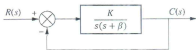

Figure 3: A unity second-order feedback control system
- Frequency of oscillation, ω_n (3)
- Damping ratio, ζ (2)
- Percentage overshoot, %OS (2)
- Settling time, T_s (2)
- Peak time, T_p (2)
- Sketch the step response of this transfer function. (4)
- b) Figure 3 shows a unity second-order feedback control system with a gain K and a constant β is shown below. Solve for the values of gain K and β that will result in a 30% overshoot and a settling time of 2.5 seconds to a step input.